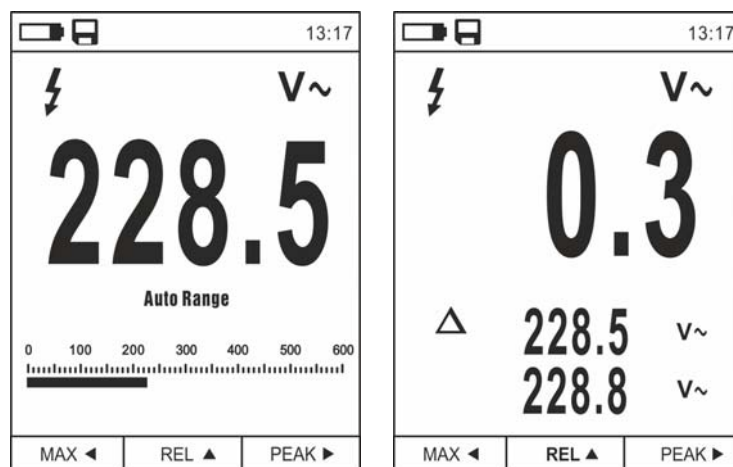

Fig. 8: Relative measurement
1. Press key **REL ▲** to enter relative measurement (see Fig. 8 – right side). The instrument zeroes the display and saves the displayed value as a reference value which subsequent measurements will be referred to. Symbol “ Δ ” appears on the display. Functions “MAX/MIN” and “PEAK” are not active in this mode.